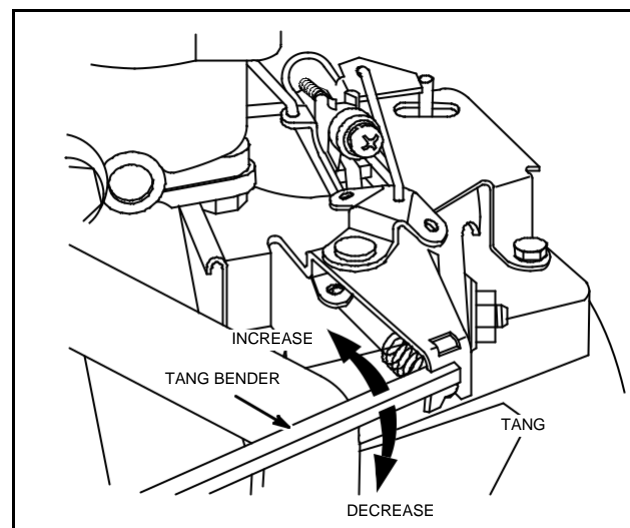

Fig. 28 – Adjust Governed Idle
2. Bend governed idle tang to obtain 1300 RPM, Fig. 28.